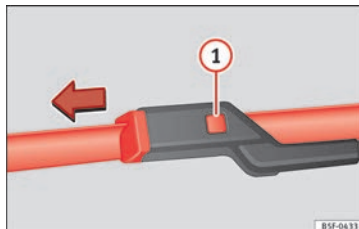

Fig. 73 Changing the windscreen wiper blade.
- Press the securing tab down ① »» Fig. 73.